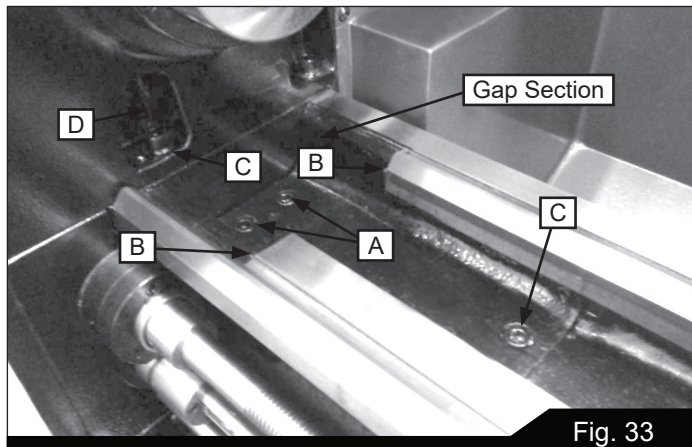

Fig. 33
1. To remove the gap section (Figure 33), remove four socket head cap bolts (A) and two socket bolts at the ends of the rails (B).
2. Remove two tapered alignment pins (C) by placing the provided gap bridge pin driver (D) over them and threading its screw down into them, until the pins are loosened enough to be pulled out.